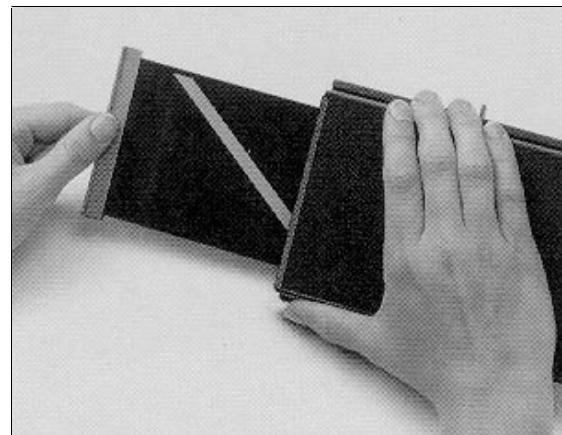

Figure 3-3. Removing Dark Slide
- e. Remove the dark slide from the film holder (figure 3-3), then insert the holder into the camera head.